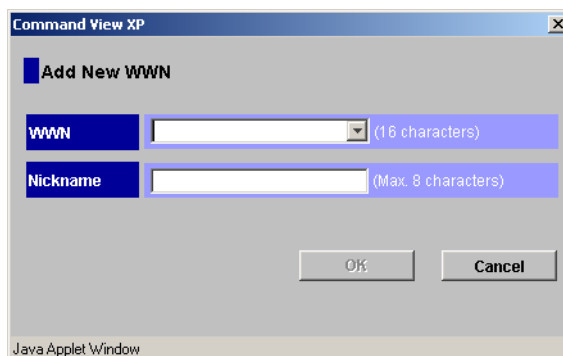
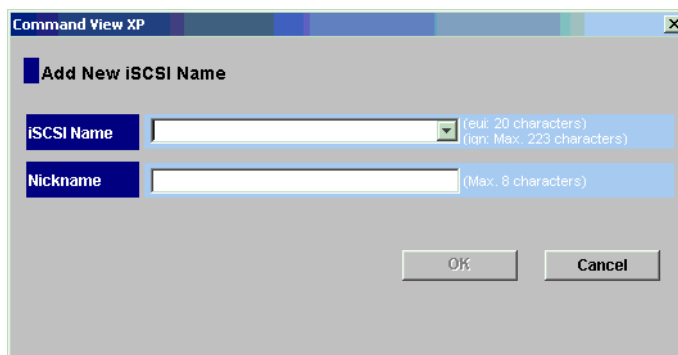

Figure 102: Add New WWN dialog box (Fibre Channel environment)
Figure 103: Add New iSCSI Name dialog box (iSCSI environment)
7. After LUN security has been enabled, in the LU Path tree right-click the host group and then select **Add New WWN** (for a Fibre Channel environment) or **Add New iSCSI Name** (for an iSCSI environment) in the pop-up menu. The **Add New WWN** (or **Add New iSCSI Name**) dialog box will display (see Figure 102 page 255 for Fibre Channel and Figure 103 page 256 for iSCSI).